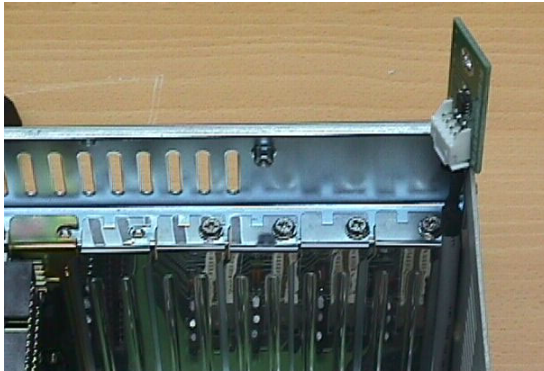

Figure 2-3: Adjusting the location of thermal sensor
2. If the thermal sensor becomes an obstacle for installing the card, adjust the sensor location. Please refer to *Figure 2-3*.